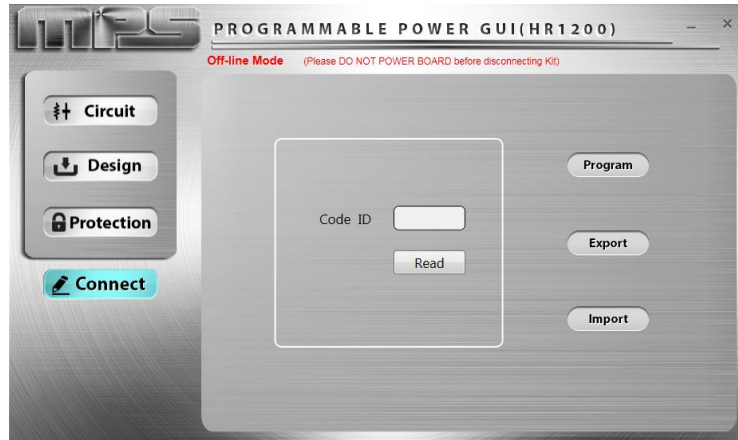

Figure 20: Connect Panel
- Go to **Connect panel** to program the IC after all of the parameters have been configured. **Connect panel** is as shown in Figure 20.